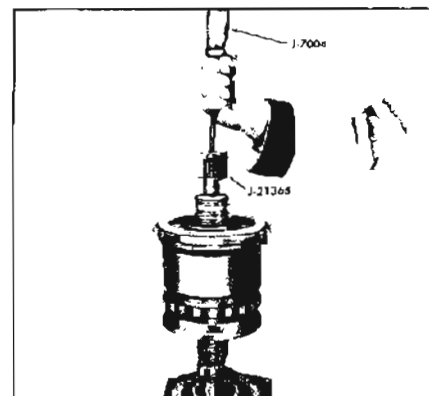

Figure 5-551
18. Place the gear unit assembly with output shaft facing down in hole in work bench. See Figure 5-551.